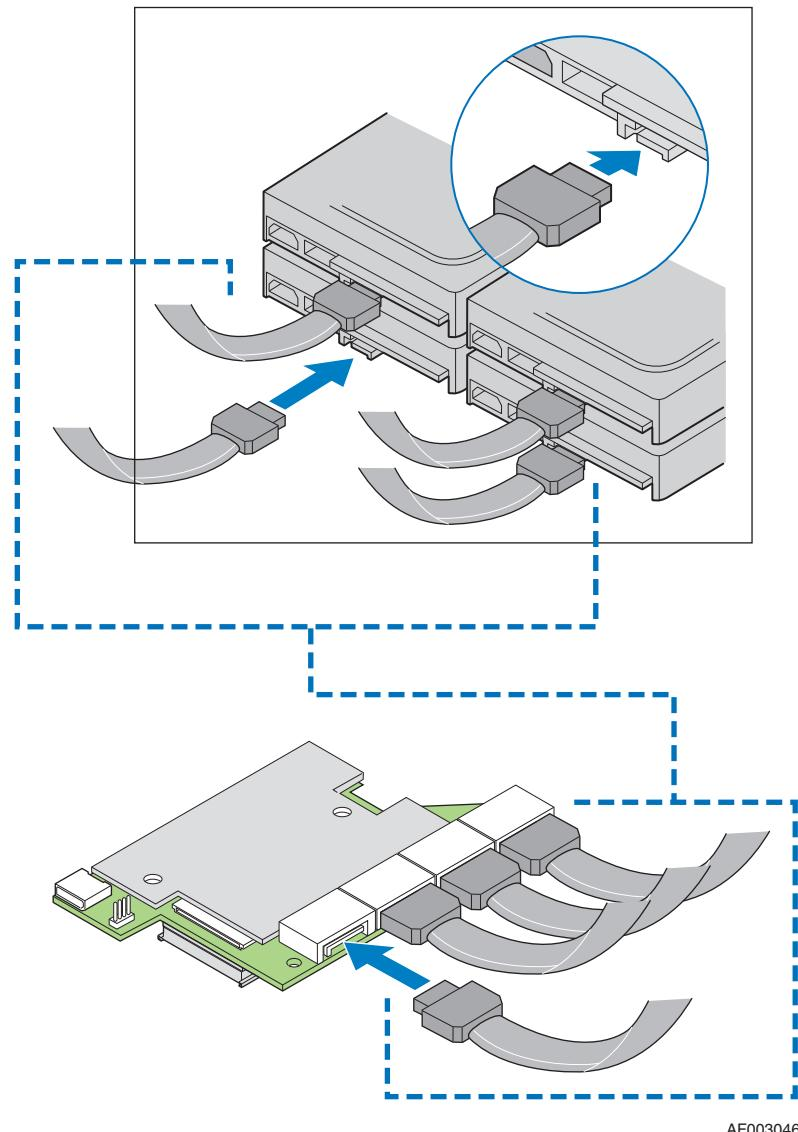

Figure 3. Connecting Cable between the RAID Module and Drives/Backplane
6. Connect the SAS/SATA cables from the backplane (or hard drives) to the RAID module (see Figure 3). For information regarding connecting the recommended Right-angle end or Vertical end of the SAS/SATA cable to the SAS connectors of the controller, see your server/workstation board or chassis documentation. Make sure the cables are properly connected to the controller.